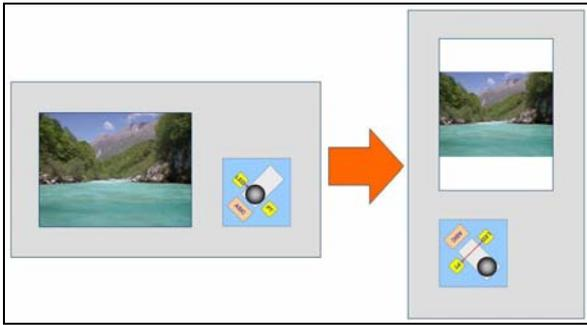

Figure 3: Image orientation in displays is a typical application of orientation sensors
- Portable devices with displays in order to rotate the image according to the device's orientation (Figure 3)